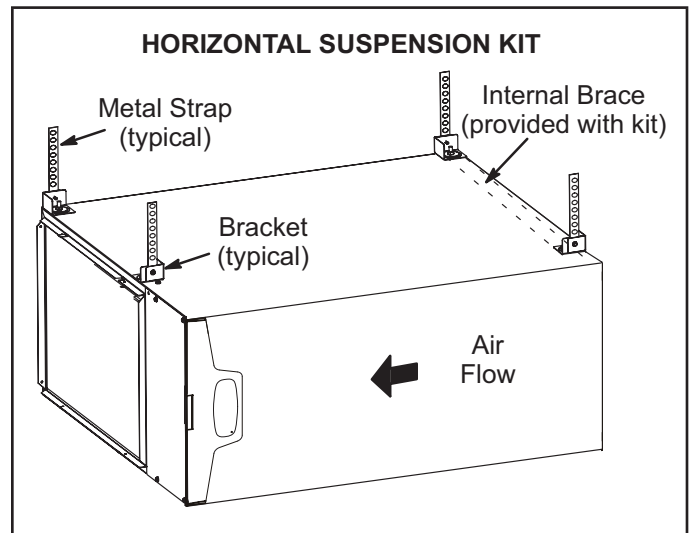
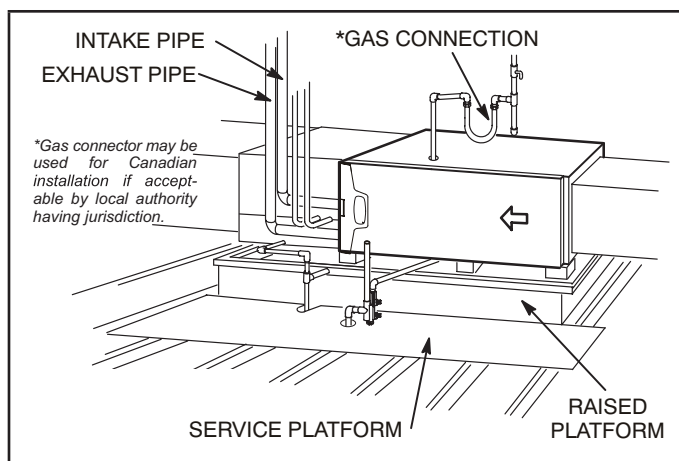

FIGURE 18
FIGURE 19
This furnace may be installed in either an attic or a crawlspace. Either suspend the furnace from roof rafters or floor joists, as shown in FIGURE 18, or install the furnace on a platform, as shown in FIGURE 19. A horizontal suspension kit (51W10) may be ordered from Lennox or use equivalent
- 2 - Construct a raised wooden frame and cover frame with a plywood sheet. If unit is installed above finished space, fabricate an auxiliary drain pan to be installed under unit. Set unit in drain pan as shown in FIGURE 19. Leave 8 inches for service clearance below unit for condensate trap.